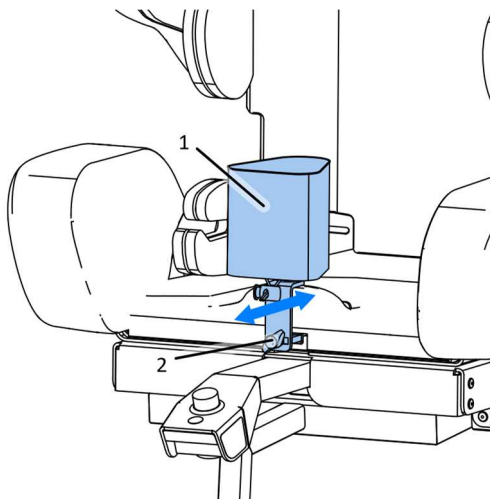

Fig. 23
7.7 Adjusting the position of the abductor Fig. 23